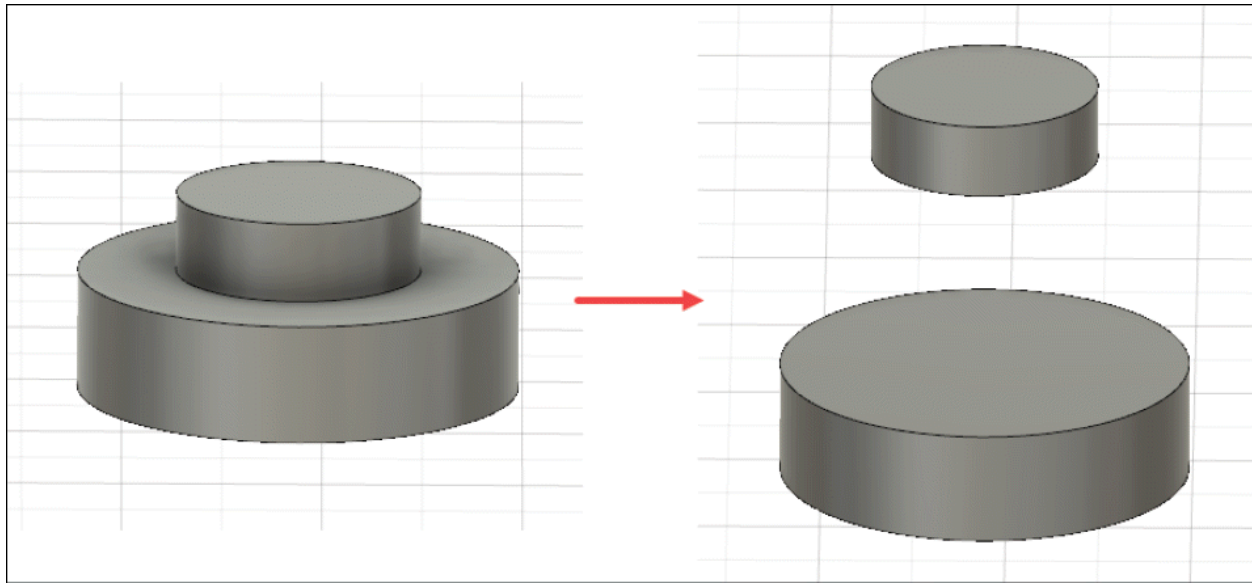

Figure-89. Parameter changed
- The equation specified in the **Parameters** dialog box will be applied to the model; refer to Figure-89.